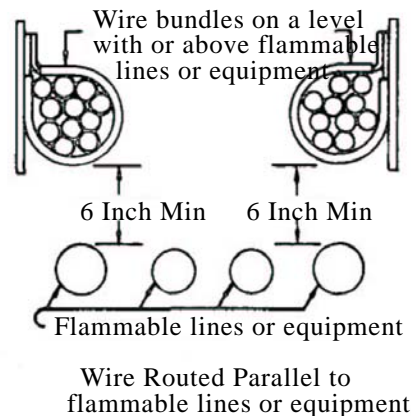
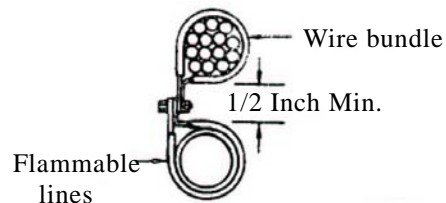

Figure 7. Installation of Wiring Near Flammable Lines.
Figure 8. Alternate Installation.
15. **FLAMMABLE LINES.** When wiring must be routed parallel to flammable lines for short distances, maintain as much fixed separation as possible, six inches or more (Figure 7). When a six inch clearance cannot be maintained, the bundle and flammable line shall be clamped as shown in (Figure 8) so that there will be no relative motion between them. When a two-inch clearance cannot be maintained, the bundle shall be clamped as shown in (Figure 9). The minimum clearance shall be 1/2 inch. Route the wires on a level with, or above, the plumbing lines. Space clamps so that if a wire is broken at a clamp it will not contact the line. If the separation is less than two inches but more than 1/2 inch, use a nylon sleeve over the wire bundle to give further protection. Use two cable clamps back to back, to maintain a rigid separation.